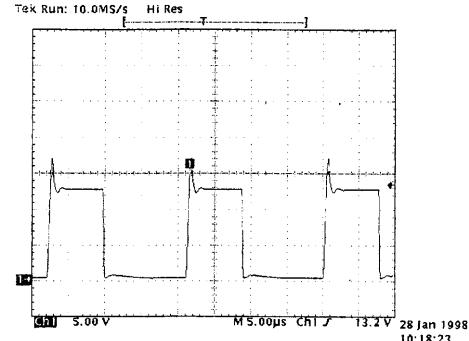
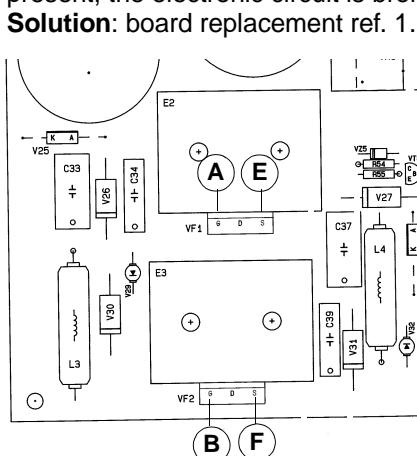

FIG. 8 REF. 1
FIG. 7 REF. 1
- the presence between points: E (GND) - A (probe) and F (GND) - B (probe) (fig. 7) of the waveform shown in fig. 8: if the waveform differs from the one in the figure or it is not present, the electronic circuit is broken.
- Connect the generator to the resistive load: the load must be regulated so that the voltage on the load, with maximum current, is between 20V and 24V. Apply oscilloscope probe as in fig. 8